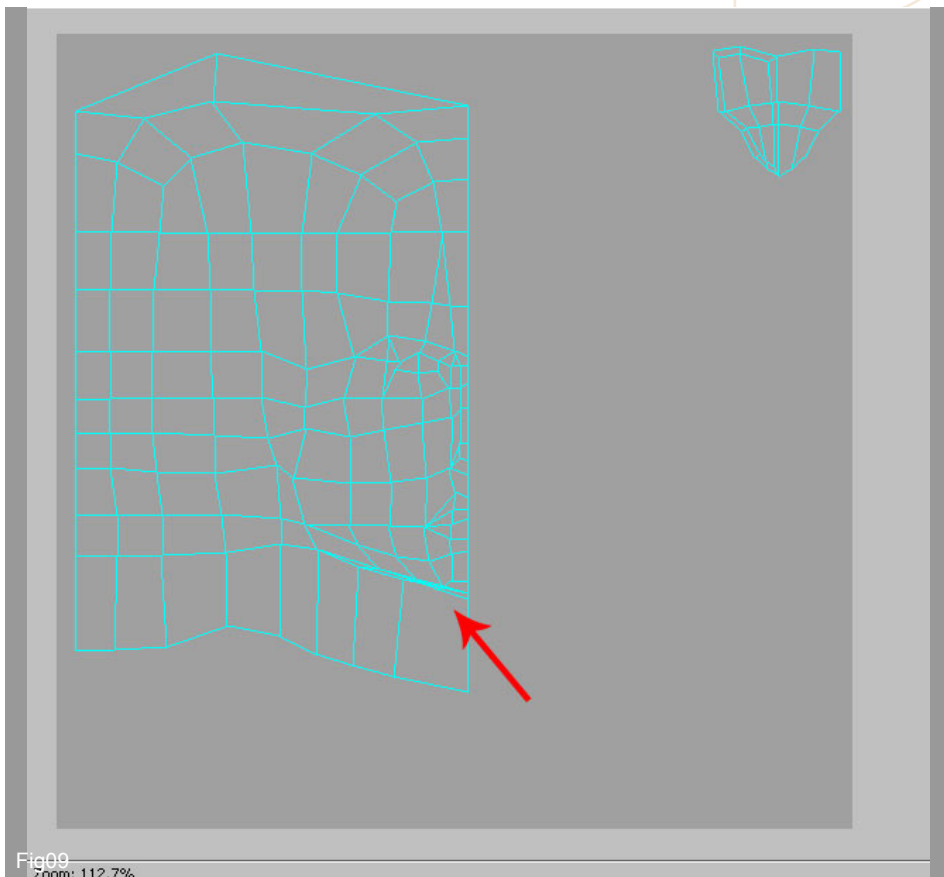

Fig09
9. We shall now go on fix the neck area, in fact part of mesh is overlapped as seen in Fig09.